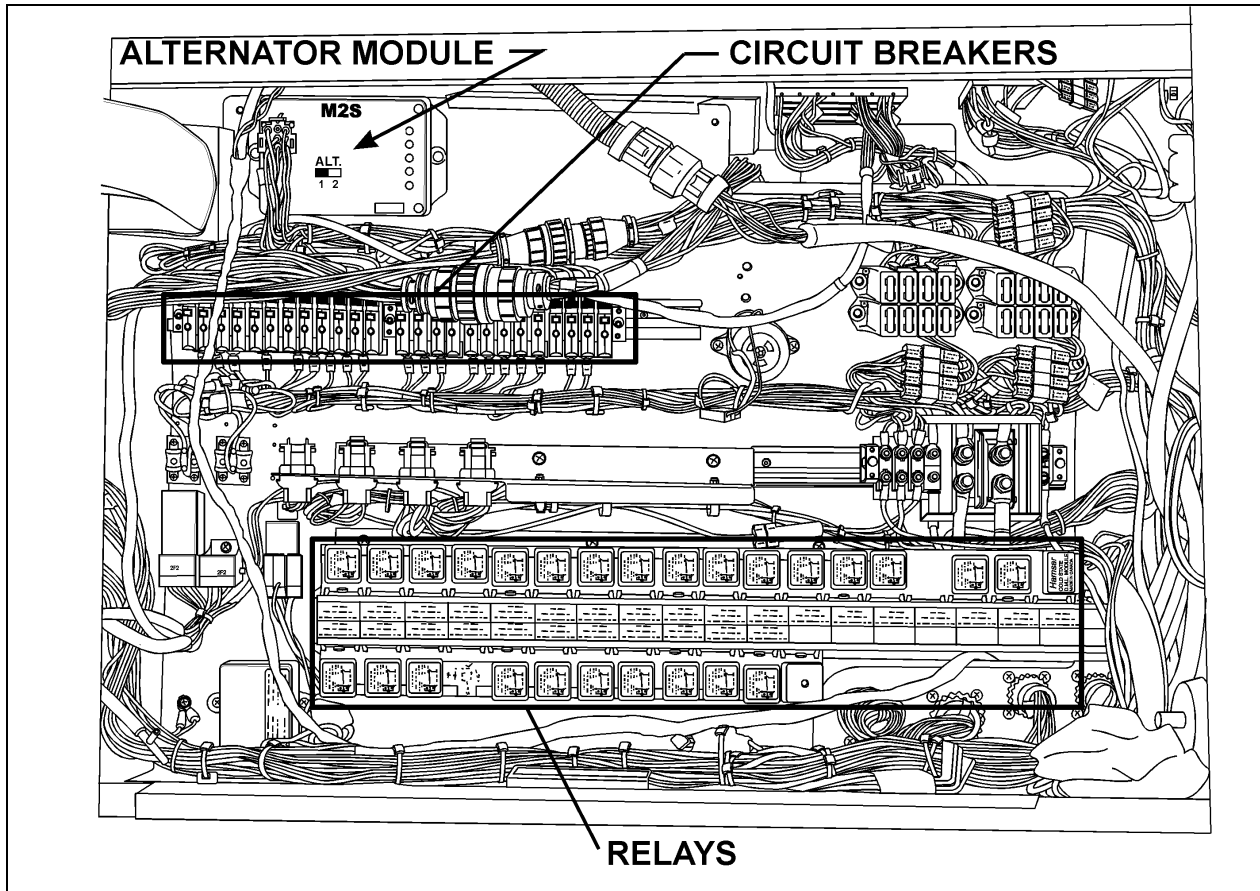

FIGURE 2 : TOP SECTION OF FRONT SERVICE COMPARTMENT
3. Locate Bosch alternator module, refer to figure 2. Check module lot number (lot number is inscribed in bottom R.H. side corner). If lot number is equal to or above 2033A, module is correct. Close the door, the procedure is done. If lot number is below 2033A, replace module using the following steps.